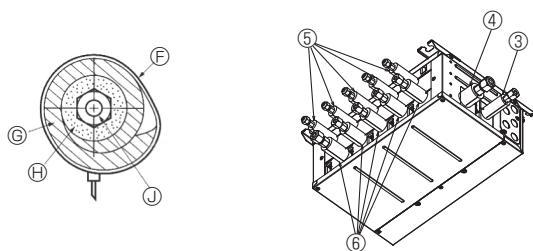
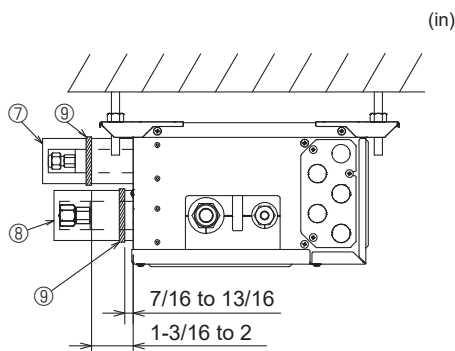

Fig. 7-3
Fig. 7-4
- Insulate the liquid and gas pipes of the branch box by attaching the heat-resistant polyethylene foam tightly around them. (Fig. 7-3)
- (5) Press the pipe covers ③ and ⑤ on the liquid piping against the unit and wrap to hold in place. (Fig. 7-3)
- (6) Press the pipe covers ④ and ⑥ on the gas piping against the unit and wrap to hold in place. (Fig. 7-3)
- (7) Apply the supplied bands ⑨ at a position 7/16-13/16 in (10 - 20 mm) from each end of the pipe covers (③④⑤⑥).
- (8) If the indoor unit is not connected, fit the supplied pipe covers (with caps, ⑦ and ⑧) to the branch box refrigerant piping connections against the unit to prevent condensation dripping from the pipes. (Fig. 7-4)
- (9) Clamp the pipe covers (⑦⑧) in place with the supplied bands ⑨.
- ⑦ Band (3.1. Accessories No. ⑨)
- ⑧ Pipe covers (3.1. Accessories No. ③④⑤⑥)
- ⑨ Thermal insulation for refrigerant piping
- ⑩ Refrigerant piping
7.2. Handling of ports that are not connected to outdoor unit (Fig. 7-4)